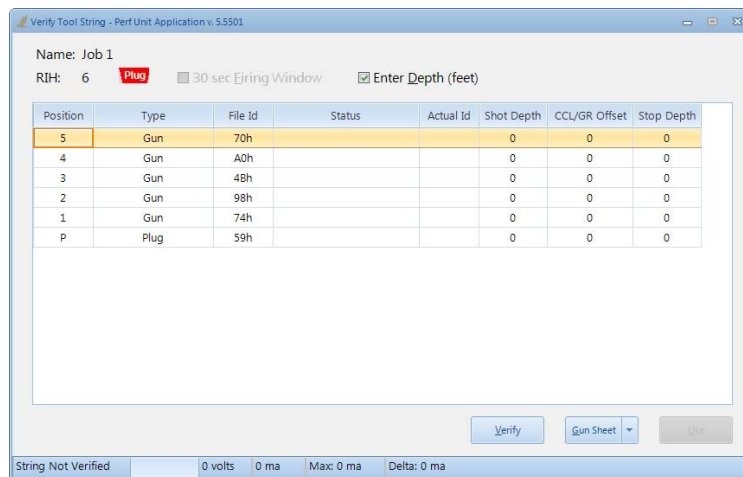

Figure 26
2. If you wish to enter depths for viewing purposes only, select the “Enter Depth” check box. Depth input columns for “Shot Depth”, “CCL/GR Offset” and “Stop Depth” appears as shown in Figure 26. **This step is optional.**